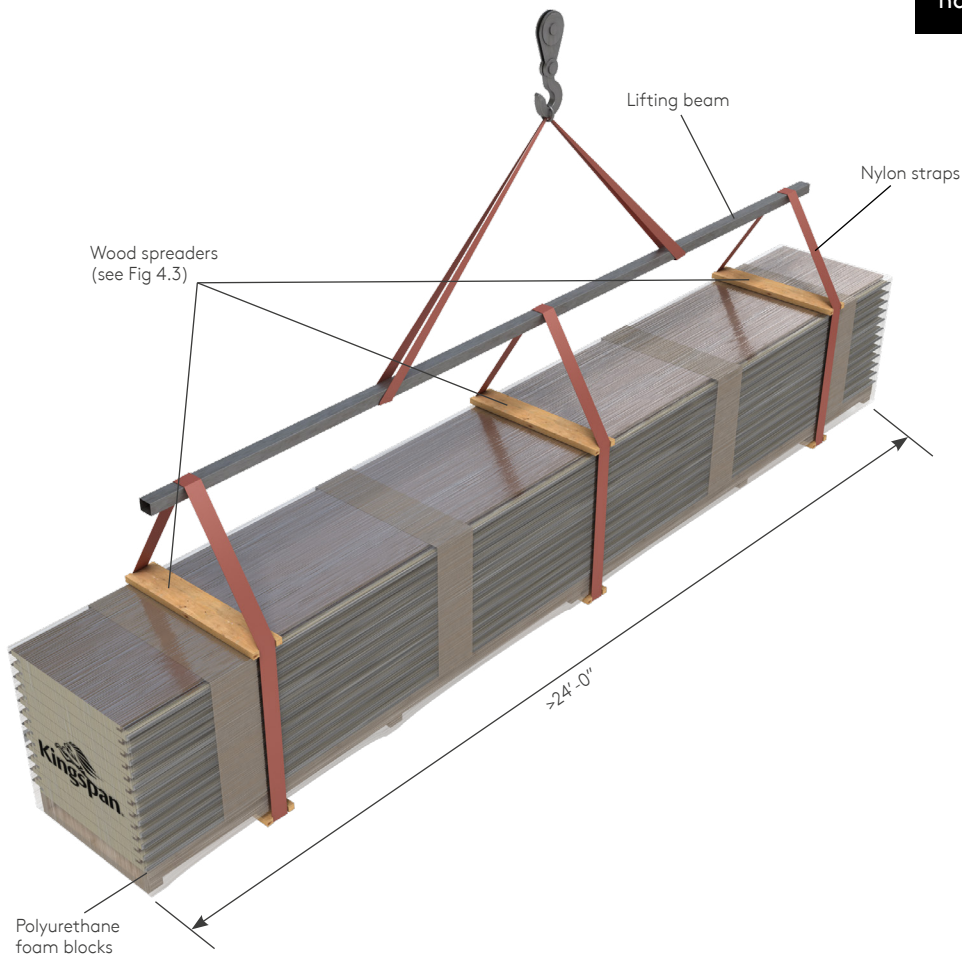

Fig. 4.4
4.2.3 When lifting bundles with a crane longer than 24'-0", three points of support are recommended from lifting beam to bundle, as shown in Fig. 4.4. To prevent damage from nylon straps, use wood spreaders at top and bottom at lifting locations as shown in Fig. 4.4 and Fig. 4.5.